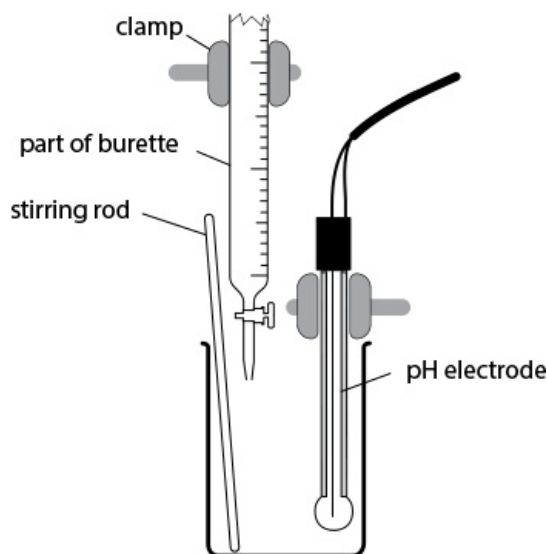

Figure 13.1: Measuring pH using an electrical method
- 3 Set up the apparatus as shown in Figure 13.1. Connect the pH electrode to the pH meter and clamp it gently so that the bottom of the pH electrode is close to the base of the beaker.